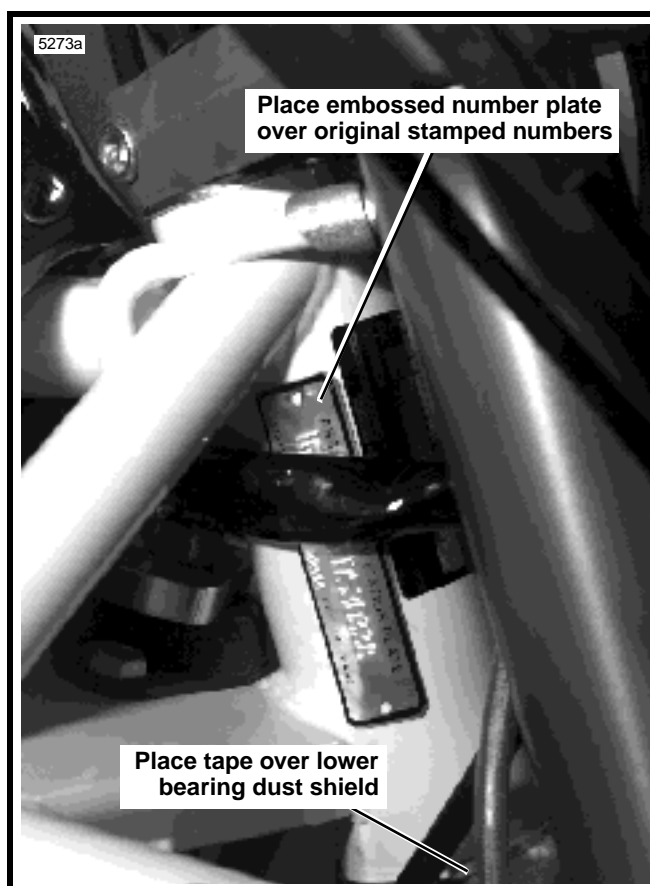

Figure 3. Preparing Steering Neck Tube
1. See Figure 3. Place a strip of tape over lower bearing dust shield.